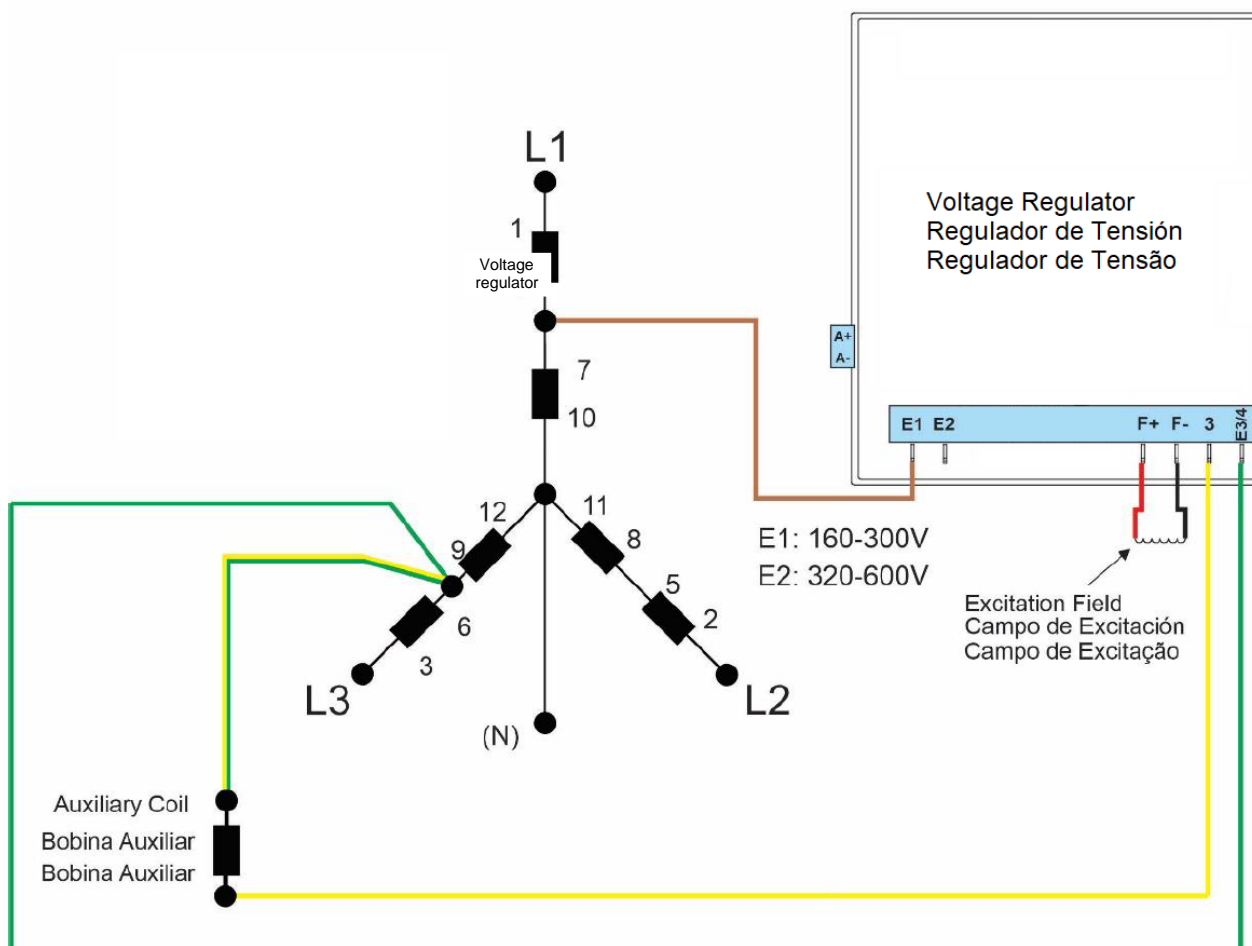

Figure 15.1: Cables diagram – Series connection (Alternator)
2. By disconnecting the alternator voltage regulator, the cables will be available Figure 15.1.